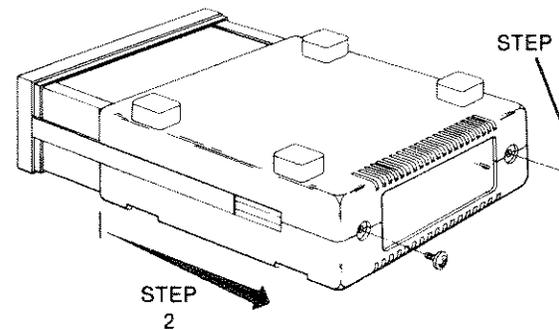

Figure 2-1. Top and Bottom Cover Removal
To verify the line voltage (or change the fuse) operator must first remove the top and bottom covers. Remove the top and bottom using the following step figure 2-1.
9. Secure covers to unit using two screws as shown in figure 2-1.